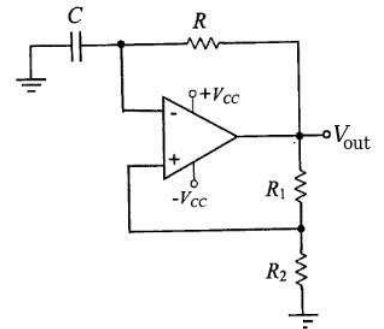

Figure 17
- 1- Construct the circuit shown in Figure 17 by using  $R = 10K\Omega$ ,